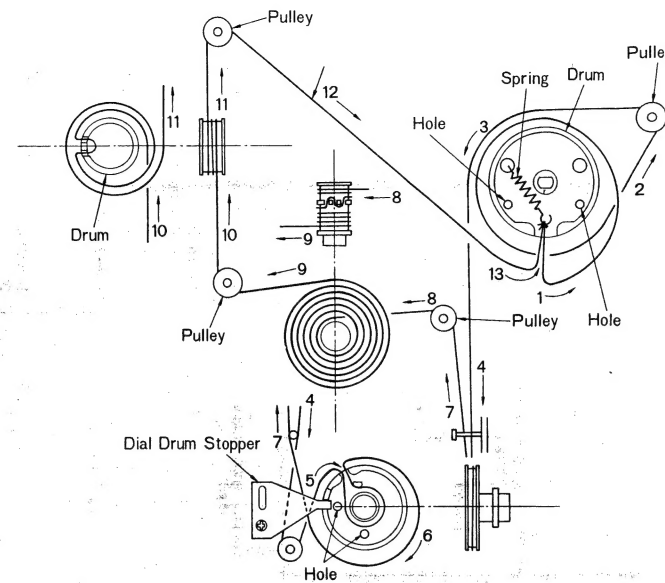

Fig. 8
2. Remove dial drum stopper, as shown in fig. 8.
3. Set each dial drum at the position, as shown in fig. 8.
4. Insert awl into the holes for fixing dial drums, as shown in fig. 8.
10. Mount dial drum stopper at the position, as shown in fig. 8.